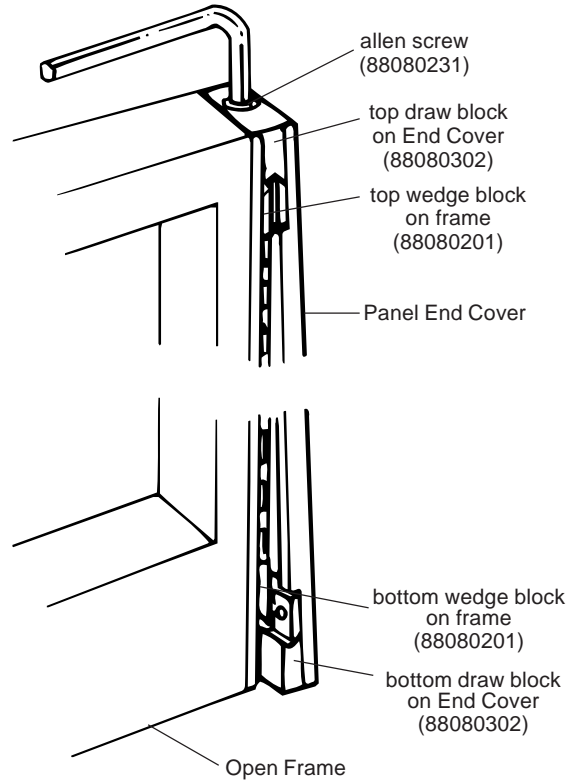

Figure 1
3. Tighten allen screw until End Cover is fastened firmly to the open frame. (Figure 1)